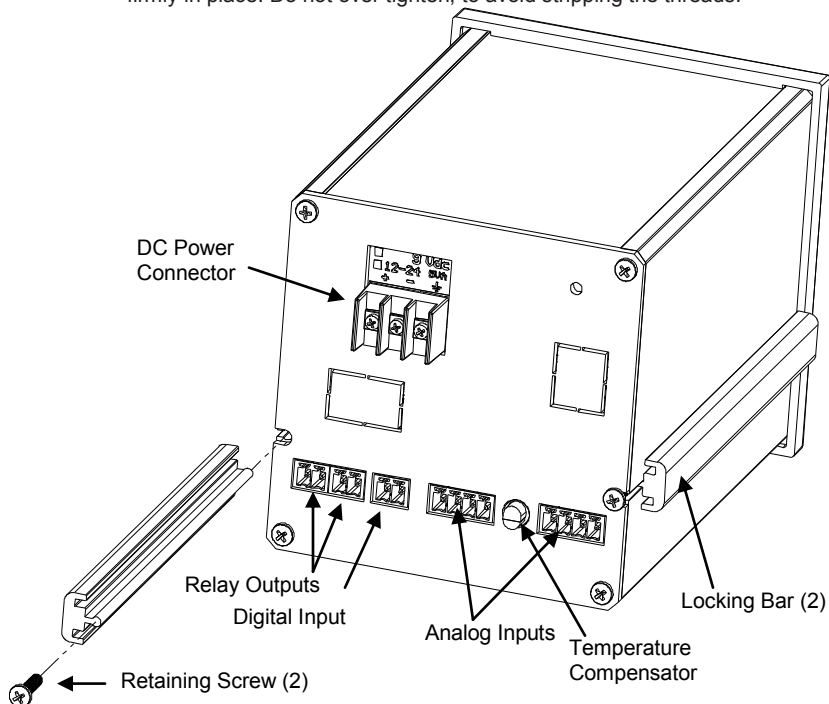

Figure 2.2 Rear View - Installation
- 2.2.1.5 With the Recorder held firmly in place against the panel, install one of the locking bar assemblies from the rear, by sliding the locking bar tongue into the groove on the side of the Recorder enclosure as shown in Figure 2.2.